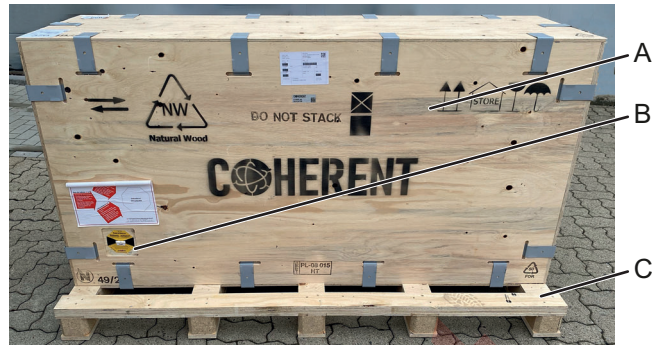

Figure 189: Rigid transport packaging
The rigid transport packaging (see Figure 189) fully encapsulates the laser device and inner cover. It consists of a plywood base pallet (C) and plywood upper panels (A) at the sides, front rear and top.
To monitor the handling of the laser device during transportation, a SHOCKWATCH indicator (see Figure 189, B) is fixed to the transport packaging. It changes to red when subject to excess shocks.